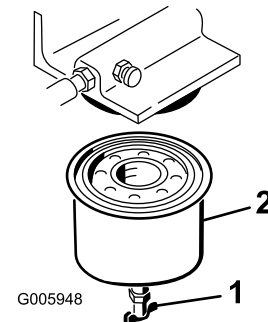

Figure 32
5. Open the drain valve (Figure 32) and drain the fuel from the fuel filter into a suitable container and dispose of it properly.
6. Remove the fuel filter with a filter wrench (Figure 32).